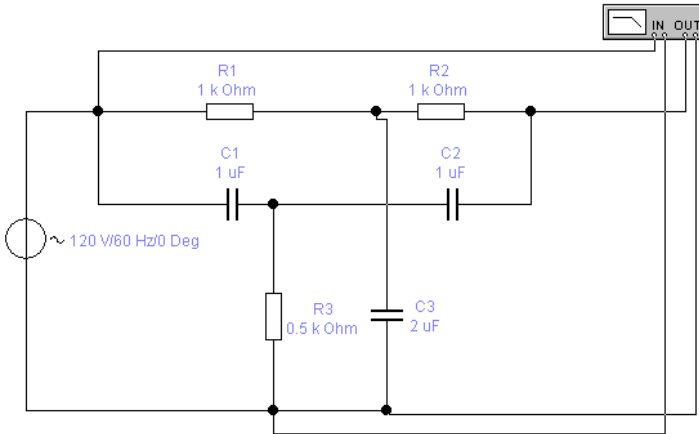

Figure 8.8 – Scheme of double T-shaped bridge
25. Draw a pattern of Fig. 8.8 and connect the Bode Plotter.